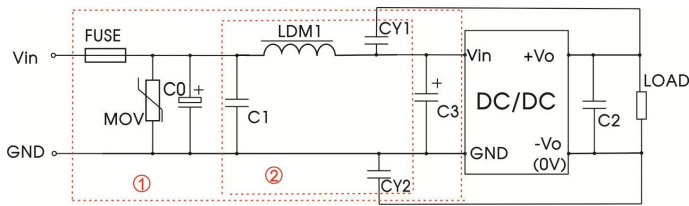

Fig. 3
Notes: For EMC tests we use Part ① in Fig. 3 for immunity and part ② for emissions test. Selecting based on needs.